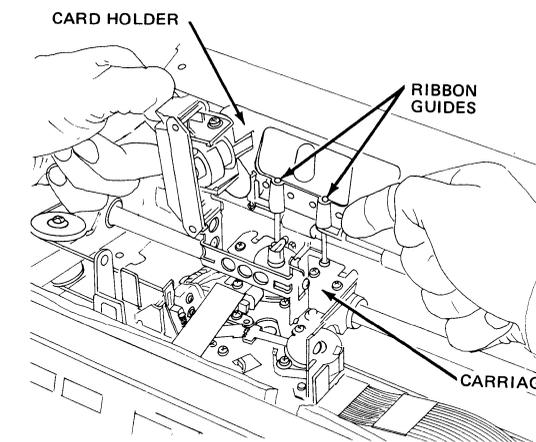

Figure 4-10 Card Holder Removal
- e. Push the plastic tabs at the bottom of the card holder (see Figure 4-10) together and remove the card holder.